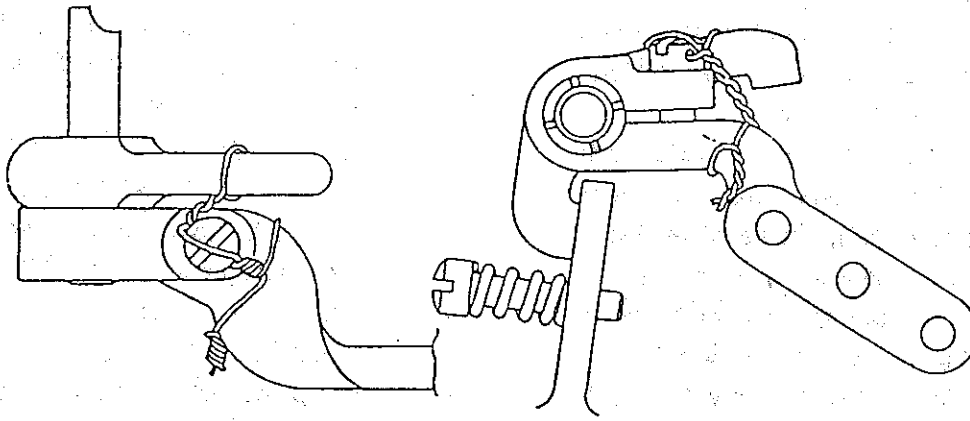

FIGURE 9
- 36) Install throttle adjusting screw (35), and spring (36).
- 37) Install retainer (39), spring (38), and idle needle (37). Approximate setting 1-1/2 to 2 turns from seat. NOTE: Some models do not use retainer (39). Refer to appropriate parts list section for proper configuration.
- 38) Place horseshoe washer (25) in its groove on mixture control valve (24). Place washer (26) over valve head and insert into casting from the bottom.
- 39) Slide packing (23), washer (22), and spring (21) over valve head. Place tip of the lock wire loop (20) into its hole in valve head. Align lever (19) with wire loop and push down to compress spring (21). Assure that the loop of the lock wire is toward the valve.
- 40) Install clamp screw (17) through safety washer (18), lever (19) and lock wire (20) and bend safety tab washer to secure. Torque screw to 20-28 inch pounds.
- 41) Install float bracket (64) with screws (63) torque to 8-11 inch pounds. NOTE: Screw (63) should be replaced if nylon long-loc is missing or ineffective.
- 42) Slide throttle opening spring (14) (if used) over the end of shaft (34) and insert the end through the hole in casting web. Install accelerating pump lever (13) and secure in place with screw (12). Torque screw (12) to 8-11 inch pounds. Insert the throttle opening spring end through the cross hole drilled screw (12) to safety and bend the end of the spring over to secure. If model does not incorporate spring use safety wire to safety screw (12). Place throttle lever (31) at proper angle location on throttle shaft and secure with retaining nut (30). Torque nut (30) to 20-60 inch pounds. Install cotter pin and bend. NOTE: Carburetor without the throttle lever locknut retaining feature on the end of the throttle shaft must have the throttle lever safety wired as shown in Figure 9.
- 43) Insert the pump (11) carefully through the packing and install pump link (10) and cotter pins (9).